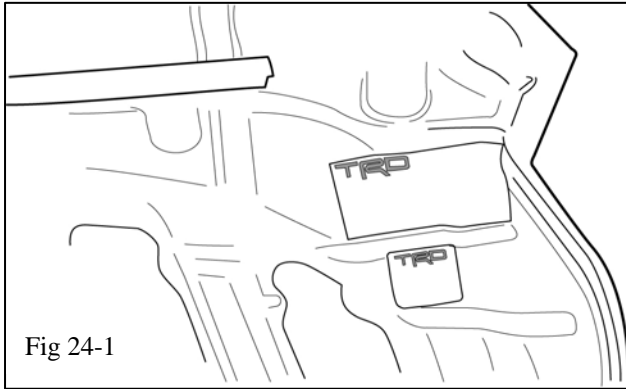

Fig 24-1
- (h) Place the new vacuum and belt routing label (L8) on an open area under the hood. **DO NOT cover the original vacuum hose label.** Place the CARB OE Emissions label (L9) near the vacuum and belt routing label (Fig 24-1). Clean the area of any dirt and contaminants before adhering the labels.